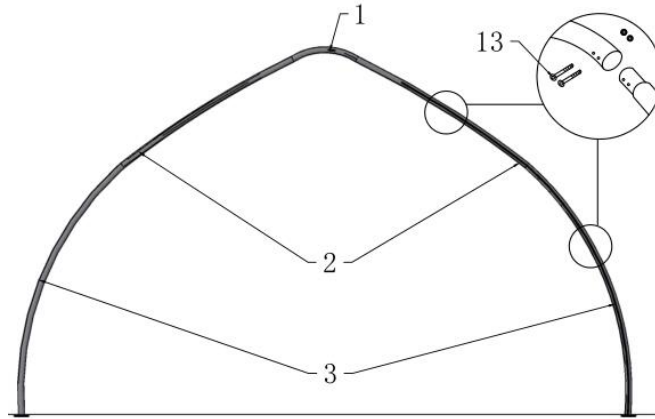

Figure 3
1. As Figure 3 shown to find one Roof Bent Tube (No.1), two Middle Bent Tubes (No. 2), Lower Bent Tube (No. 3) and assemble every group arch with BoltM8x60 (No.13). DO NOT install the screw on the top of the truss where the fabric will rest.